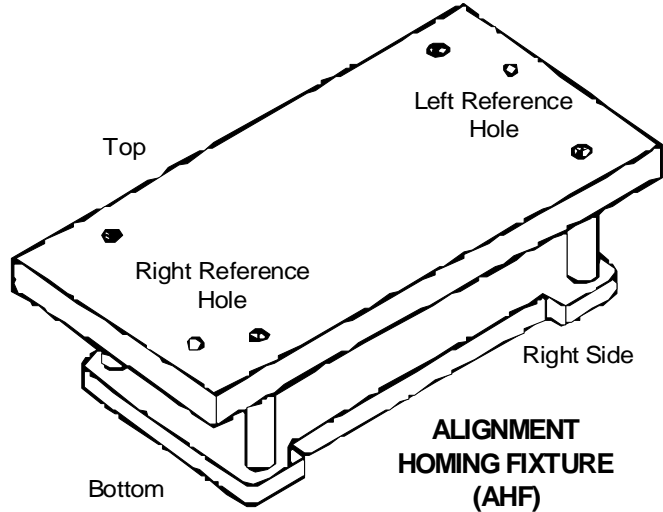

Figure 5-5. Alignment Homing Fixture
The alignment for platform left and platform right, requires using the Alignment Homing Fixture (AHF), Figure 5-5, in two locations on the platform.
3. Pipettor Alignment Tool will move over the Left Reference Hole on the Alignment Homing Fixture. (AHF) See Figure 5-5 and 5-6.
3. Pipettor Alignment Tool will move over the Left Reference Hole on the Alignment Homing Fixture. See Figure 5-5 and 5-6.
3. Pipettor Alignment Tool will move over the Right Reference Hole on the Alignment Homing Fixture. (AHF) See Figure 5-5 and 5-6.
3. Pipettor Alignment Tool will move over the Right Reference Hole on the Alignment Homing Fixture. See Figure 5-5 and 5-6.